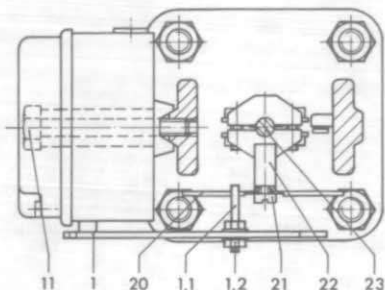

Figure 4: Attachment in the case of cast frame version (e.g. type 240)
2.1 Attachment to cast frame type valve (figures 4 and 5)